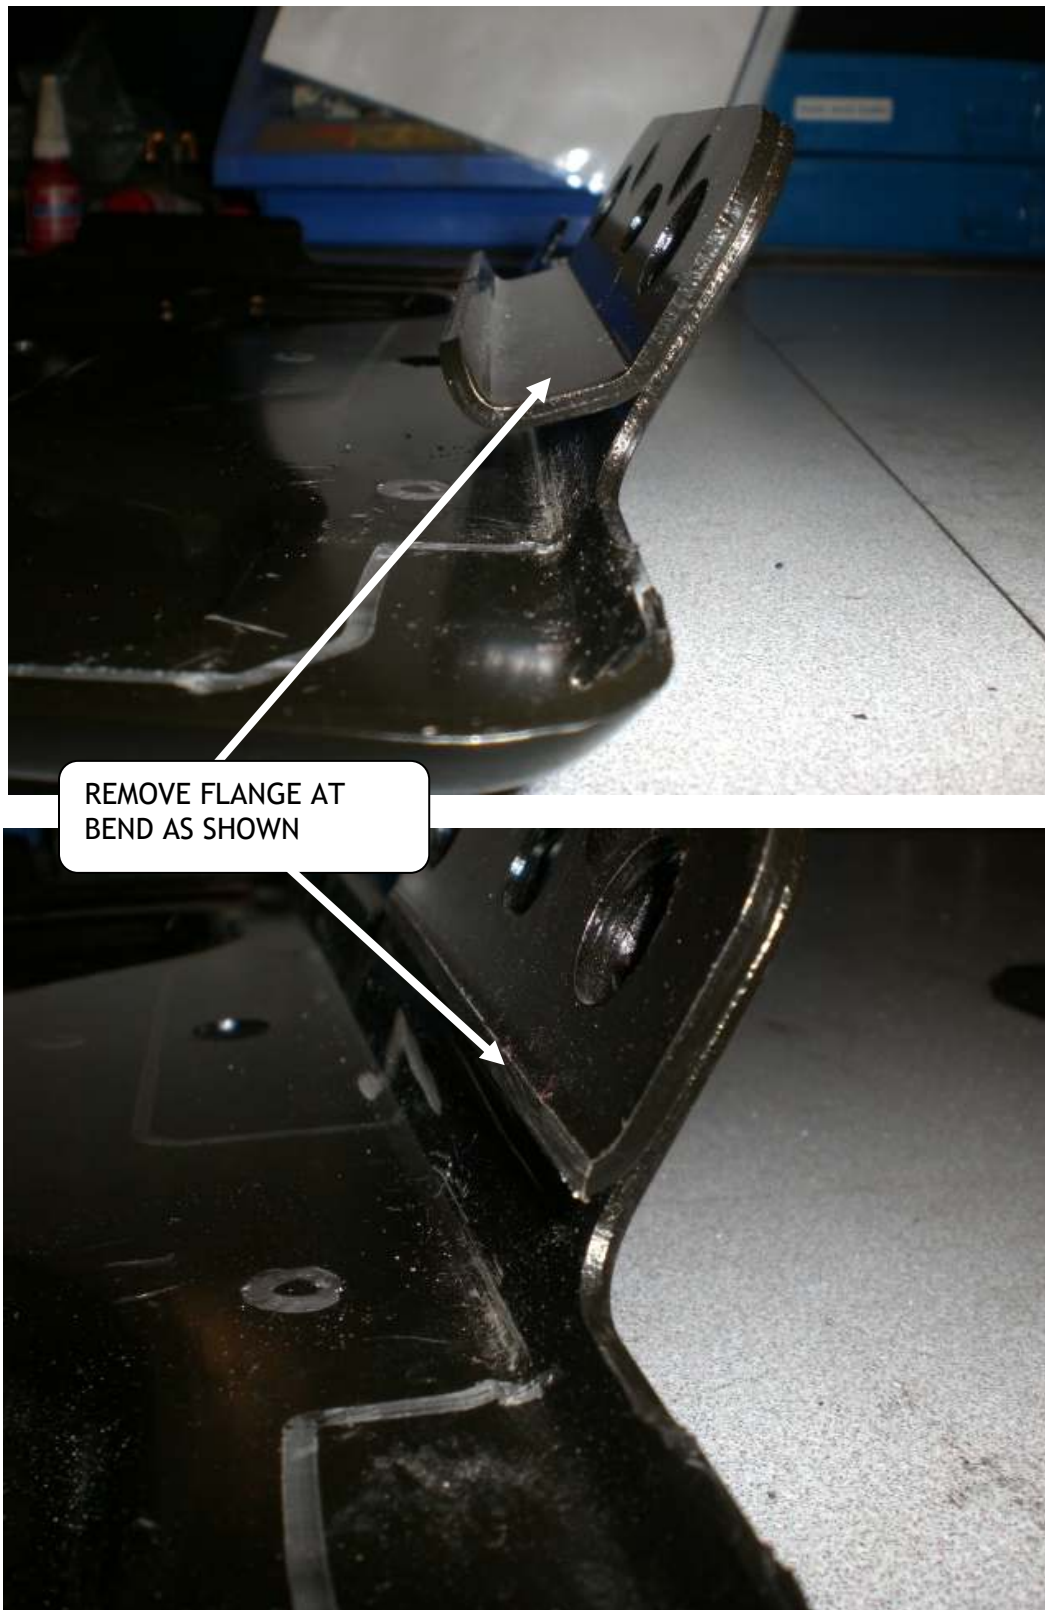

Figure 1 (2015-2019 MODEL YEAR)
- a) Trim battery tray mounting flange as shown. (Figure 1 (for 2015-2019 GM only))